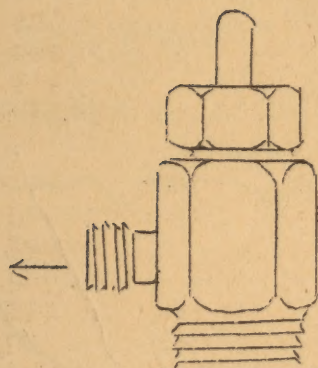

Fig. 3
- (1) Straight, Type 7 (Fig. 3) delivers gas from the side from a projecting threaded outlet.